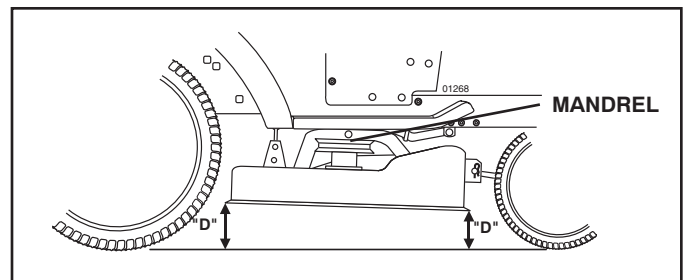

FIG. 28
**FRONT-TO-BACK ADJUSTMENT** (See Figs. 28 and 29)